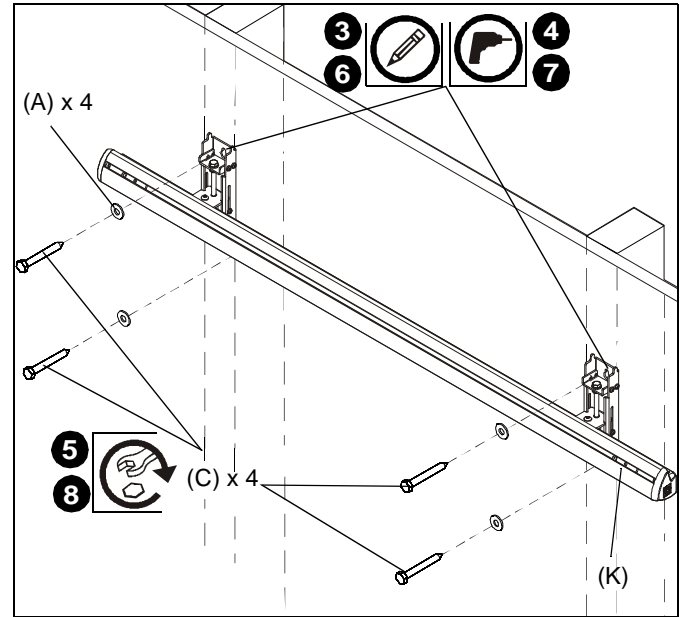

Figure 5
3. Using a level, mark the wall on each stud above existing chalkboard through **top** mounting hole in the wall assembly (K). (See Figure 5)
4. Drill one 1/8" pilot hole in each stud. (See Figure 5)
5. Use two 1/4-20 x 2-1/2" lag bolts (C) and two 1/4" flat washers (A) to attach wall assembly (K) to wall. (See Figure 5)
6. Mark the wall through the **lower** mounting hole in the wall assembly (K). (See Figure 5)
7. Drill one 1/8" pilot hole in each stud through lower mounting hole in wall assembly (K). (See Figure 5)
8. Use two 1/4-20 x 2-1/2" lag bolts (C) and two 1/4" flat washers (A) to attach wall assembly (K) to wall. (See Figure 5)